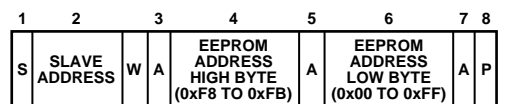

Figure 42. Setting an EEPROM Address
- To set up a 2-byte EEPROM address for a subsequent read, write, block read, block write, or page erase. In this case, the command byte is the high byte of the EEPROM address from 0xF8 to 0xFB. The only data byte is the low byte of the EEPROM address, as shown in Figure 42.